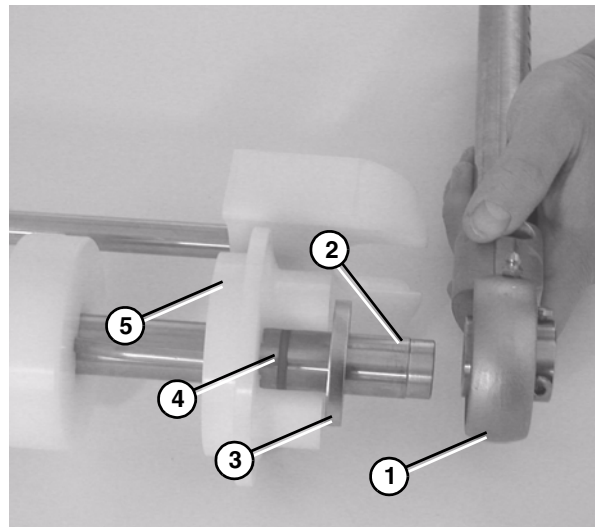

Figure 62
5. Slide the bearing shaft assembly (**Figure 62, item 1**) washer off (**Figure 62, item 3**), O-ring (**Figure 62, item 4**), and flanged puck (**Figure 62, item 5**) off the idler shaft (**Figure 62, item 2**).